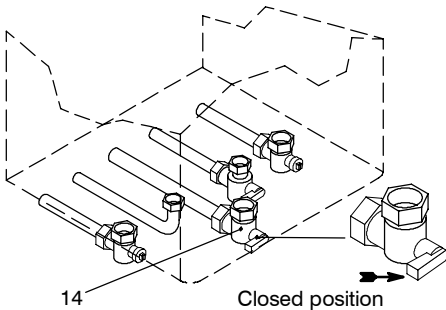

Fig. 8.1
- 1 Check that the gas cock (14 in Fig. 8.1) fitted under the boiler is turned off and the appliance is switched off at the mains isolating spur.